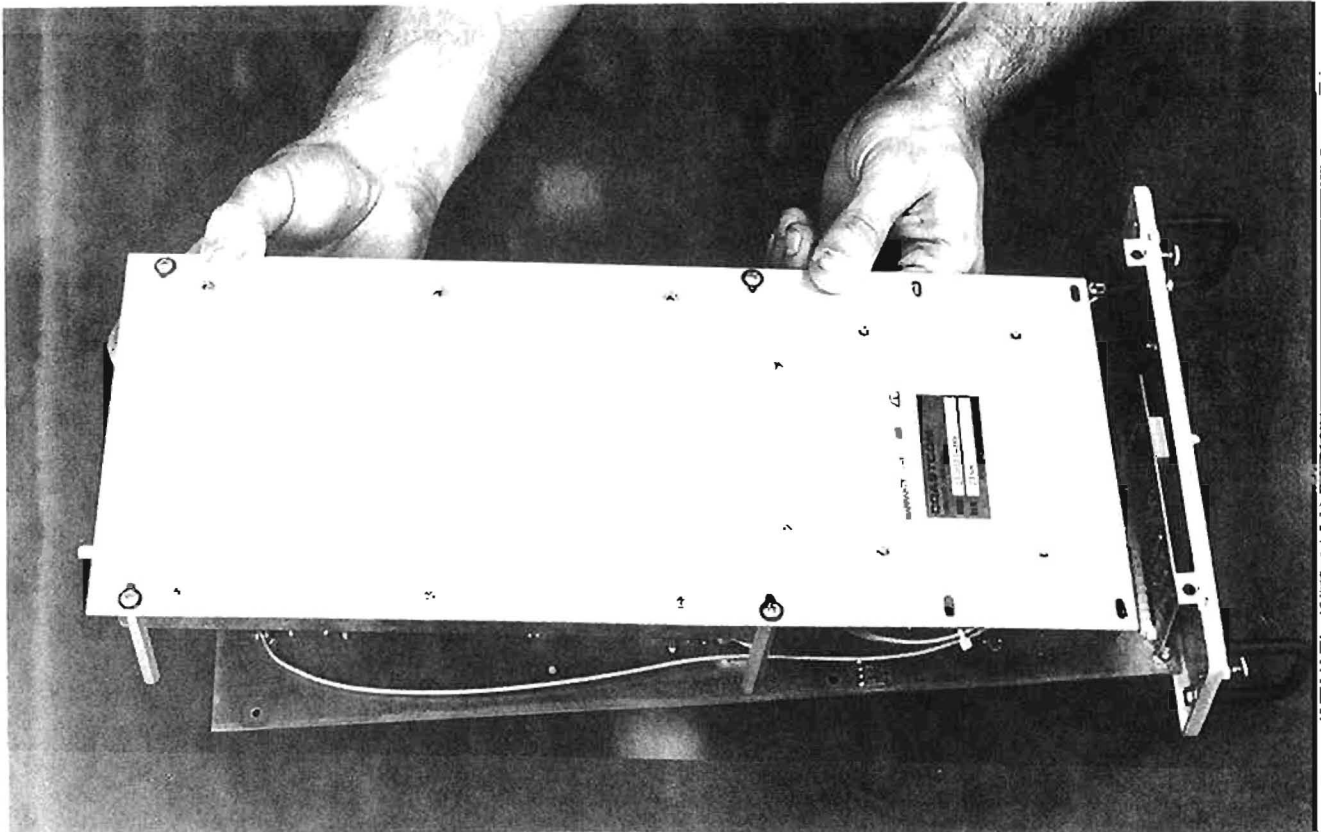

FIGURE NO. 3
- 4) With front panel facing to the right, and printed circuit side of the demodulator down against the bench, slide the metal plate back slightly and fold it over. (See figure No. 3)